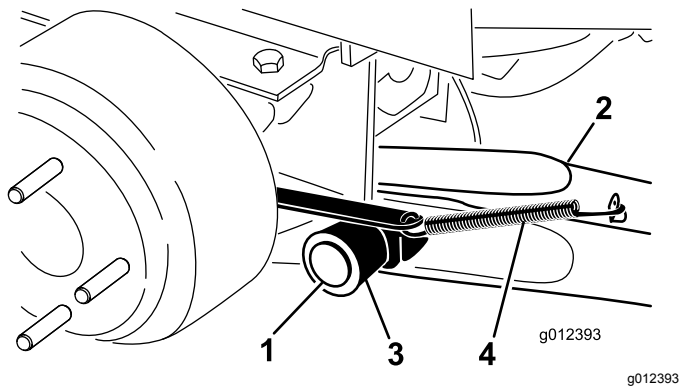

Figure 4
6. Mount a lift arm to the pivot bracket with a pivot pin and a cotter pin (Figure 4). Mount the lift arm with the bend positioned outward.
7. Hook the brake return spring to the tab on the lift arm (Figure 4).